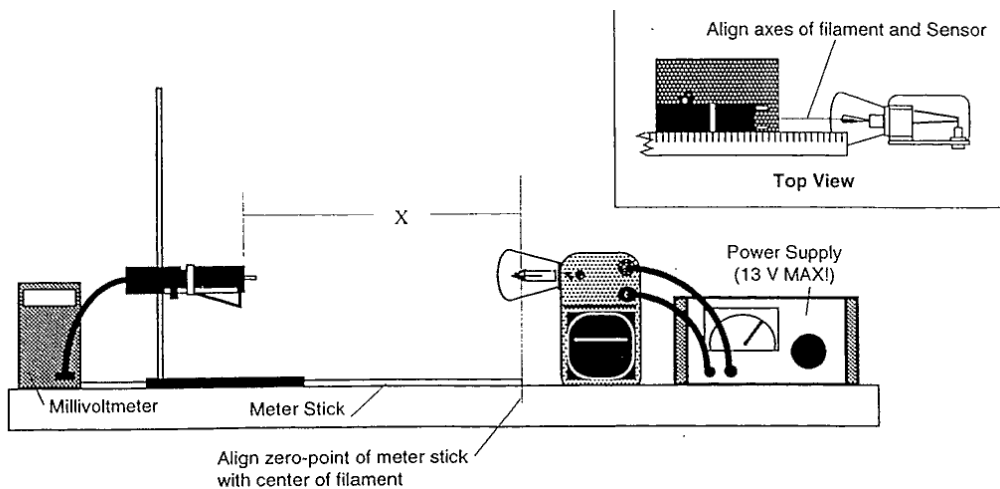

Figure 2: Inverse square law setup
1. Set up the equipment as shown in Fig. 2. Tape the meter stick to the table. Place the Stefan-Boltzmann lamp at one end, and the radiation sensor in direct line on the other side. The zero-point of the meter stick should align with the lamp filament (or, should it?). Adjust the height of the radiation sensor so it is equal to the height of the lamp. Align the system so that when you slide the sensor along the meter stick the sensor still aligns with the axis of the lamp. Connect the multimeter (reading millivolts) to the sensor and the lamp to the power supply.